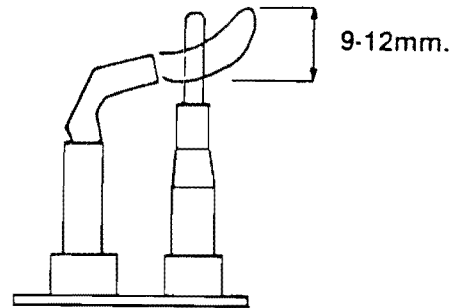

Fig. 2 Pilot flame adjustment
- f) Adjust the pilot flame if necessary, (a low energy pilot is fitted, which requires the pilot adjustment screw to be screwed four full turns anti-clockwise from closed (see Figs.2 and 3)).
Disconnect the pilot tube from the pilot assembly. Remove the pilot injector by lightly tapping the side of the pilot assembly - the injector should drop out. After reassembling, ensure that the gap between the spark electrode and burner tip is 3mm approx. After servicing, check for correct pilot flame length and adjust if necessary (see Fig.2 and para.6.8.2f in Section 6).